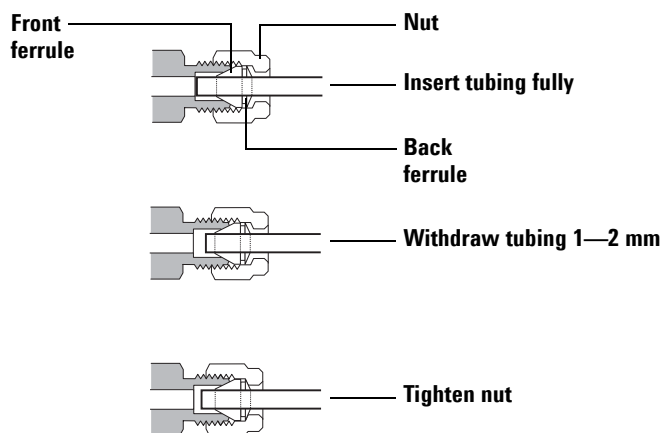

Figure 13 Insert the tubing
- 5 Push the tube fully into the plug, then withdraw it approximately 1 to 2 mm (Figure 13).